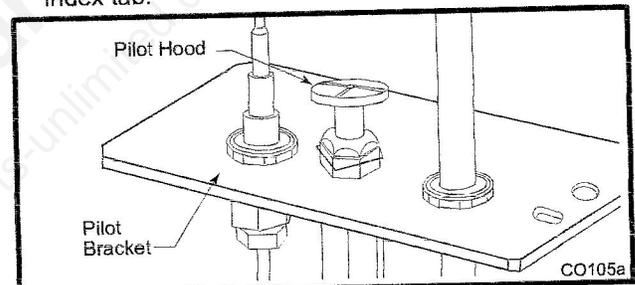

Fig. 51 Remove pilot hood.
- Remove pilot hood by lifting up. (Fig. 51) **NOTE:** It is not necessary to remove the pilot tube for conversion.